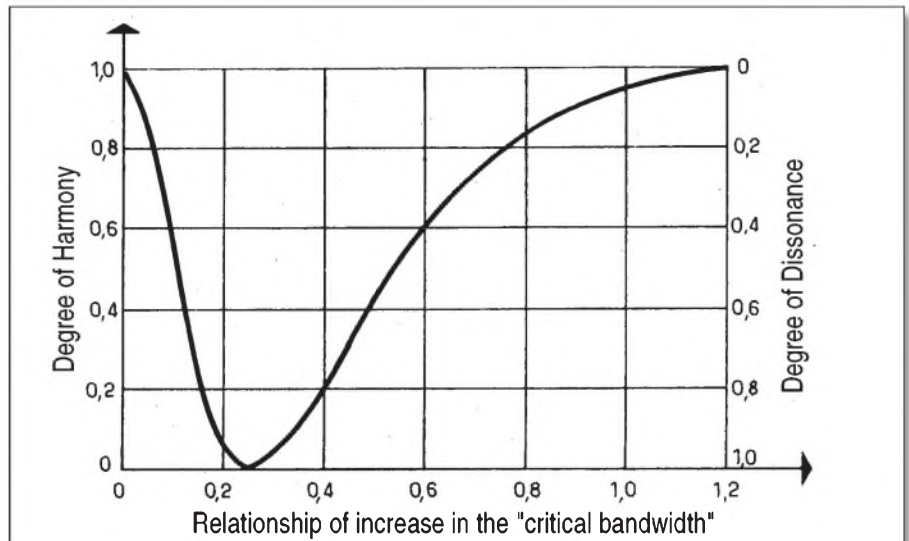

FIGURE 6: Frequency relationship between two pure notes, relating to their harmonic effect.
Figure 6 illustrates another curve which represents the level of consonance (accord), the level of dissonance (same scale, but reversed), as well as the difference in frequency between
These two dissonances, presented by the harmonic frequencies of these two basic sounds, show that even if the graph in *Fig. 6* indicates a good harmony, if harmonics are added the whole set of basic frequencies will yield, for even a small difference in one of the basic frequencies, a subjective effect of pronounced dissonance.
*Figure 7* shows this degree of dissonance and a strong similarity to results obtained by Von Helmholtz and other researchers in the field of psychophysics. Comparing *Figs. 6* and *7*, you can observe quite a radical change in the look of the consonance curve, which is due to the very pronounced effect of the harmonics contained in each of the basic frequencies.